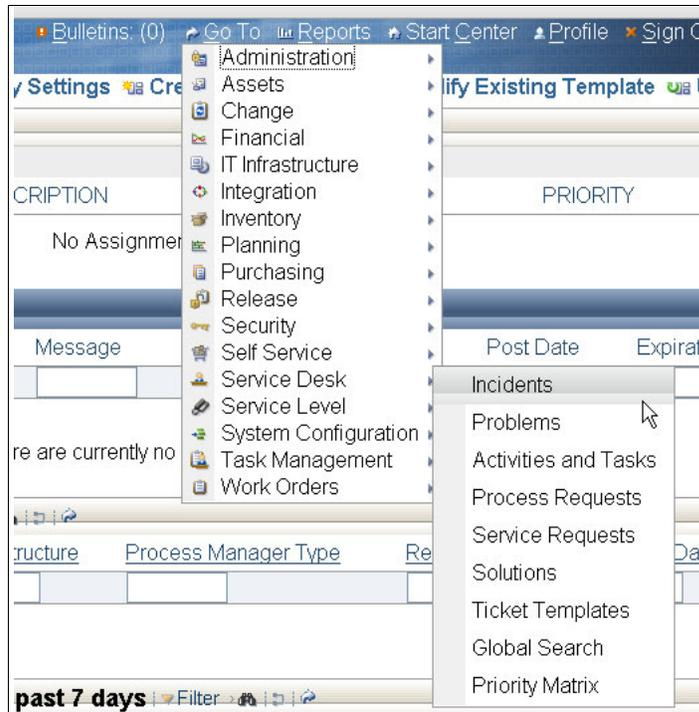

Figure 4-7 Opening the incident application within SRM
7. Open **Incident Management** from the Start Center, as shown in Figure 4-7.